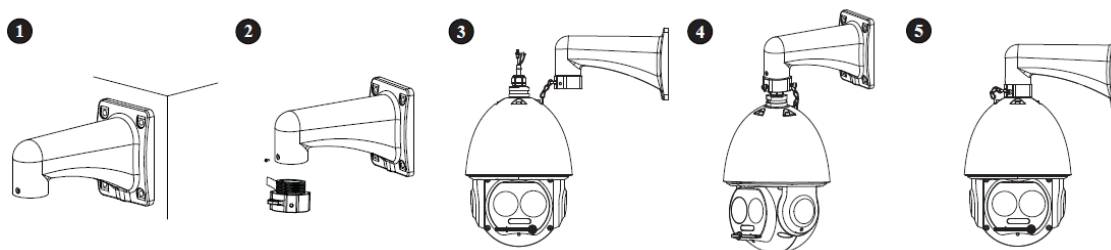

Figure 3-2
1. Dig holes on the mounting wall, fix the expansion bolt, and tighten the hex nut, as it is shown in Figure 3-2 ①.
2. Twist the quick mounting connector into the wall-mounted bracket and use stainless screws to fix it, which is shown in Figure 3-2 ②.
3. Buckle the safety hook, connect cable and use insulated rubber tape to make the device waterproof, which is shown in Figure 3-2 ③.
4. Put the cable into the wall-mounted bracket and use stainless screws to fix the speed dome on the bracket, which is shown in Figure 3-2 ④.
5. Check if the speed dome is firmly fixed and then device installation is completed, which is shown in Figure 3-2 ⑤.